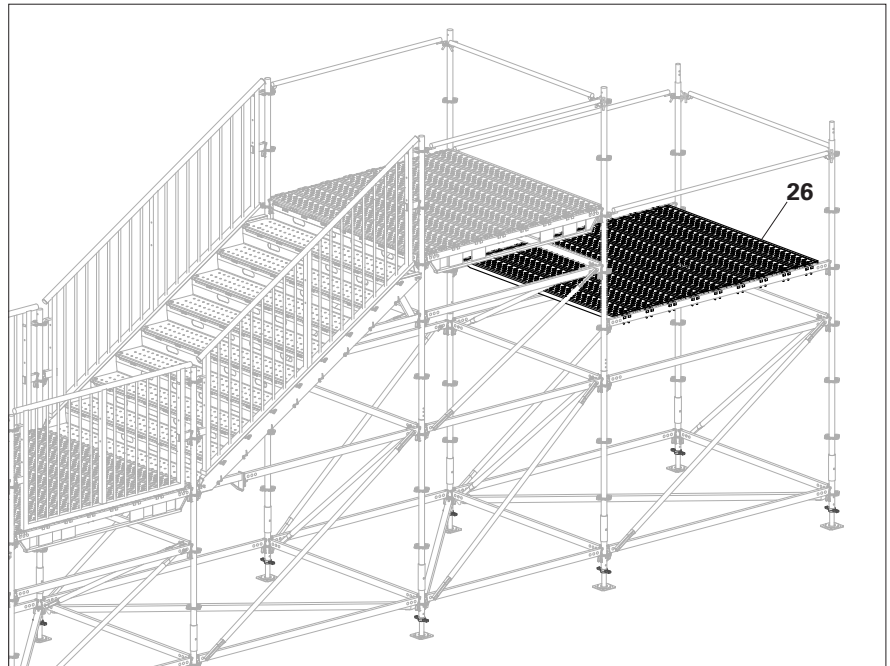

Fig. C1.18
1. Fit 9 x Steel Deck UDG-2 25x200 (**26**). (Fig. C1.18)